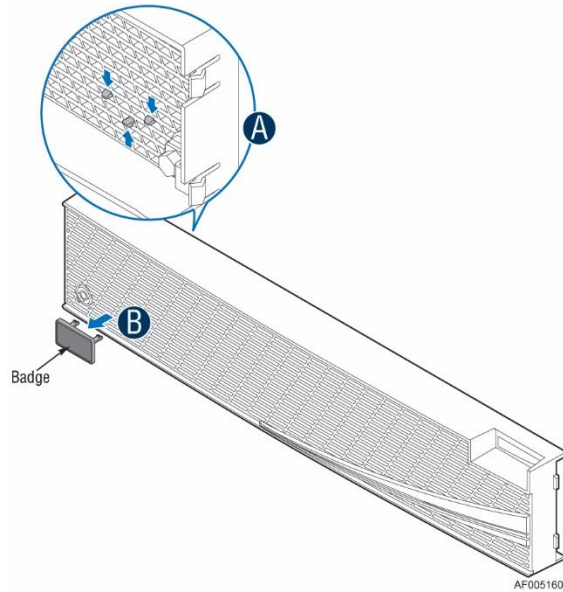

Figure 24. Removing snap-on badges from the front bezel
To remove a snap-on badge from the bezel, squeeze the hooks at the rear of the snap-on badge to release it (A) and remove the snap-on badge from the bezel (B) as pictured in Figure 24.